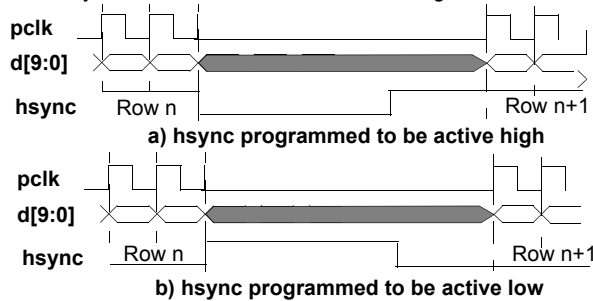

Figure 44. *hsync* in Pulse Mode
- **Pulse mode** should be used when the pixel clock, *pclk*, is programmed to operate in *data ready mode*. In pulse mode the *hsync* output pin will produce a pulse at the end of each row. The width of the pulse will be a minimum of four *pclk* cycles and its polarity can be programmed as shown in Figure 44. The *hsync* level is always synchronized to the active edge of *pclk*. The *hsync* pin is put into pulse mode by setting the *HsyncMode* bit of the *DVBUSCONFIG1* register to a logic 1. The active level of the *hsync* pulse is programmed using the *HsyncPol* bit of the *DVBUSCONFIG1* register.